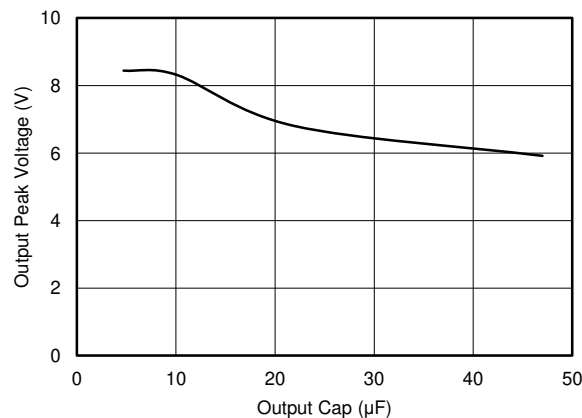

图 9-3. V_{OUT} Peak Voltage vs C_{OUT} (V_{IN} Step From 5 V to 15 V with 1-V/ μ s Ramp Up Rate)
When V_{IN} ramp up exceed 7.6 V, V_{OUT} follows V_{IN} until the TPS25200 turns off the internal MOSFET after $t_{(OVLO_off_delay)}$. Since $t_{(OVLO_off_delay)}$ largely depends on the V_{IN} ramp rate, V_{OUT} sees some peak voltage. Increasing the output capacitance can lower the output peak voltage as shown in 图 9-3.
- For output capacitance, refer to Figure 9-3, low ESR ceramic cap is recommended.